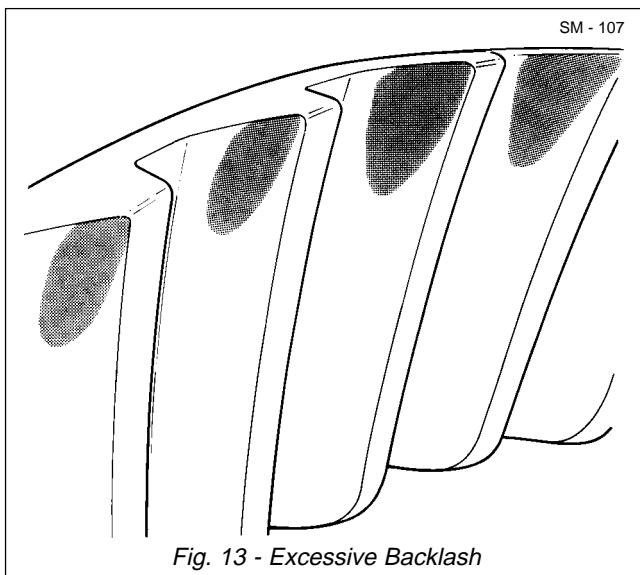

Fig. 13 - Excessive Backlash
- c. If the contact area is on the outer part of the ring gear teeth, see Fig. 13, move ring gear toward pinion by turning bearing adjuster.